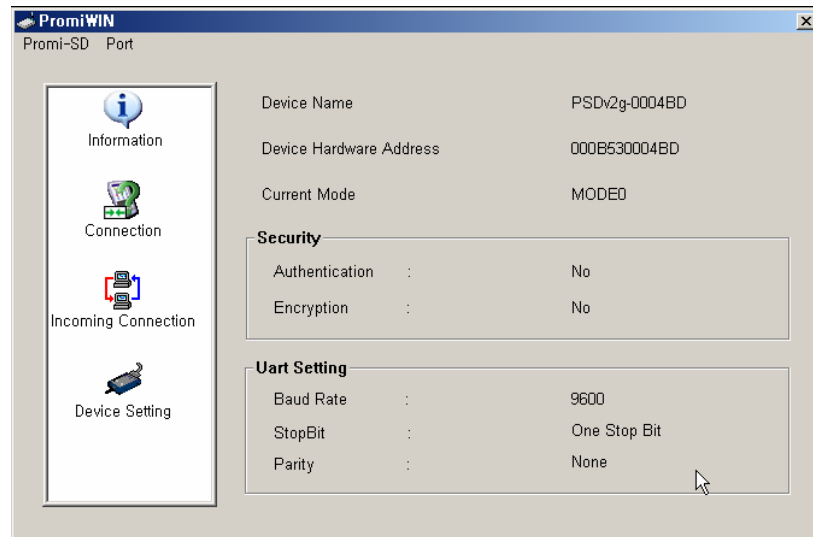

Figure 1.
4. Select **Promi-SD → Start** in the menu. SD information will be displayed as shown in Figure 1.